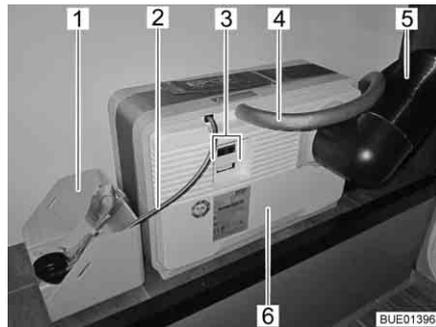
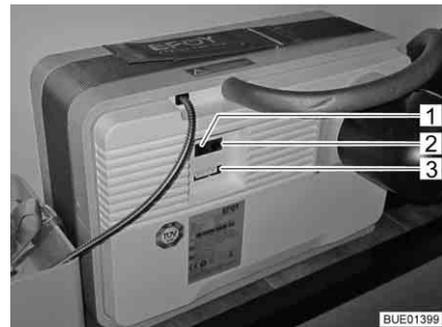
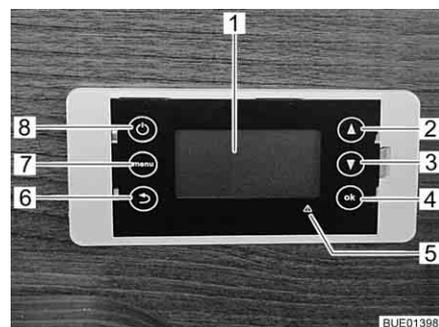

Fig. 160 Fuel cell with tank cartridge
Fig. 161 Connector panel of the fuel cell
Fig. 162 Operating unit fuel cell
The fuel cell consists of several components that are installed in the rear storage space (Fig. 160) and of an operating unit (Fig. 162) in the living area.
The following components are on the fuel cell (Fig. 160,6):
- The connector for the air discharge hose (Fig. 160,4) or the filling hole for the service fluid
- the off-heat tube (Fig. 160,5)
- electrical connections (Fig. 160,3) with data interface (Fig. 161,2), device connection (Fig. 161,3) and connection for the operating panel (Fig. 161,1)
A tank cartridge belongs to the fuel cell (Fig. 160,6). It is connected to the fuel cell via a tank connection (Fig. 160,2).
The tank cartridge is firmly fixed in the tank cartridge holder (Fig. 160,1).
The fuel cell automatically charges the living area batteries if their voltage falls below 12,3 V and if the fuel cell is switched on using the On/Off key (Fig. 162,8).
The display (Fig. 162,1) of the operating unit has four lines.
The main menu can be accessed with the menu key (Fig. 162,7):
In the event of faults, the red fault indicator (Fig. 162,5) lights up and a message appears on the display. The message consists of an error code and information on how to rectify the fault.